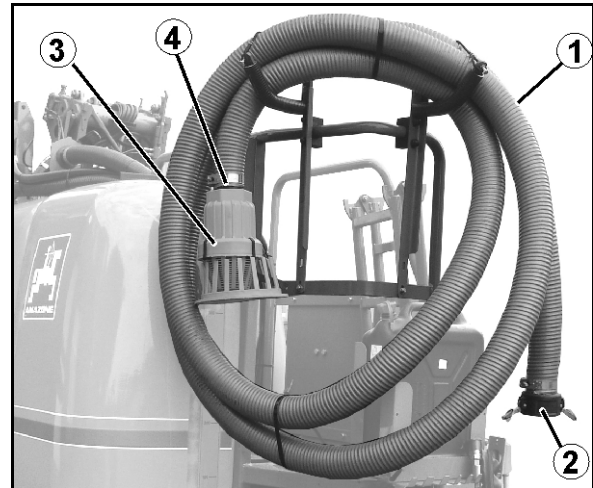

Fig. 45
- Filling connection with free flow path and swivel spout (Fig. 45).